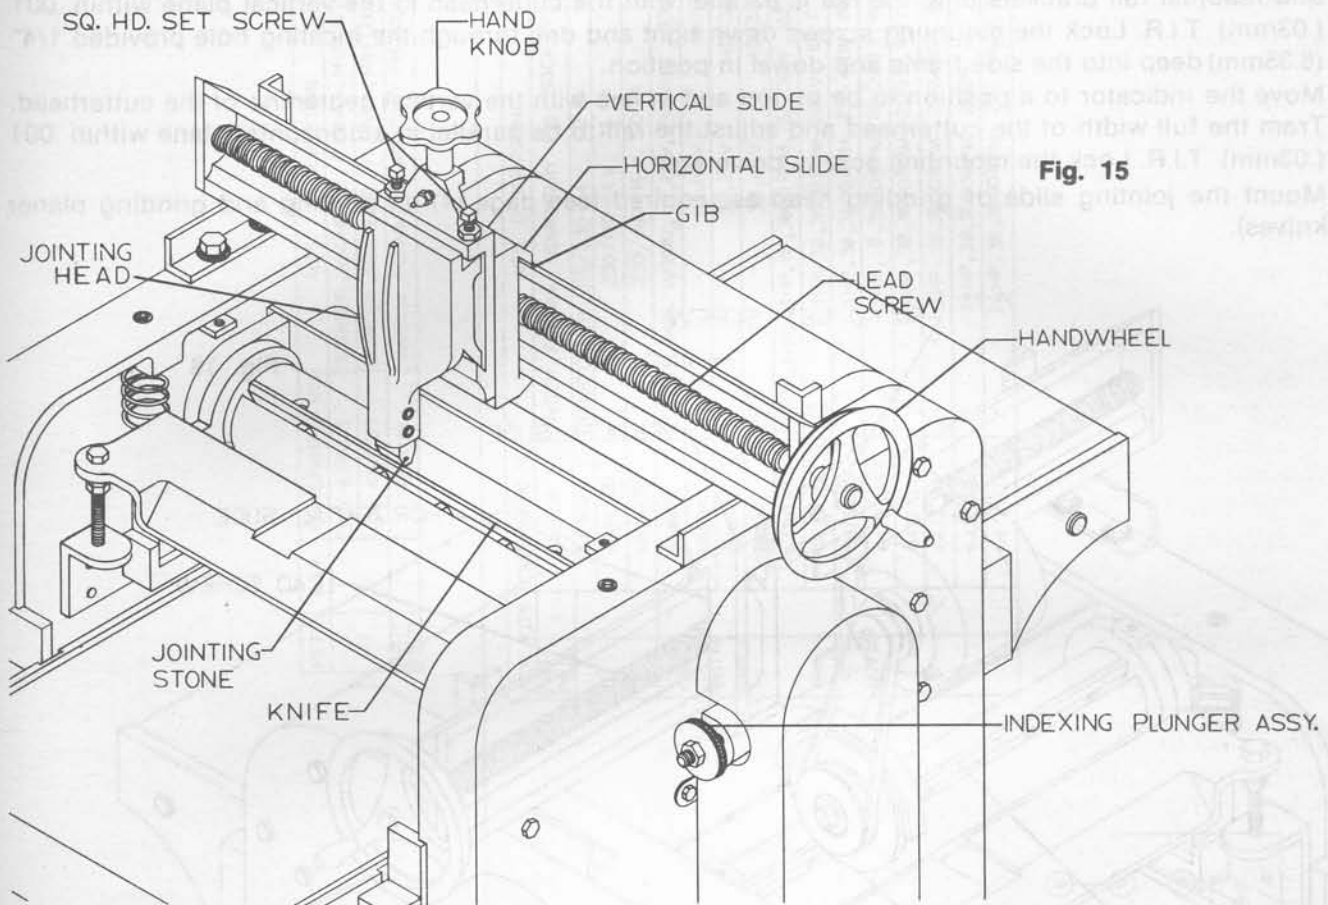

Fig. 15
2. Install and center the jointing head in the dovetail ways of the vertical slide. Lock in position with the setscrews provided (Fig. 15). Be sure the jointing stone clears the knives by lowering the vertical slide with the top mounted hand knob until it touches one knife at the high point of its arc. Raise the slide with two full turns of the hand knob. Check the vertical slide making sure that the gib is snug so that screw pressure is required to move the slide downward. Also check the horizontal slide to be sure the gib is snug but movement is smooth and easy. **Make sure the jointing stone's locked in its holder.**
4. Alternately lower the jointing head at the end of each traverse and traverse the full cutterhead width with jointing stone until a slight flat (shiny line) appears on all knives over their full length. The flat may be wider in some places than others and this is normal due to uneven wear. Turn the cutterhead motor off (Fig. 15).